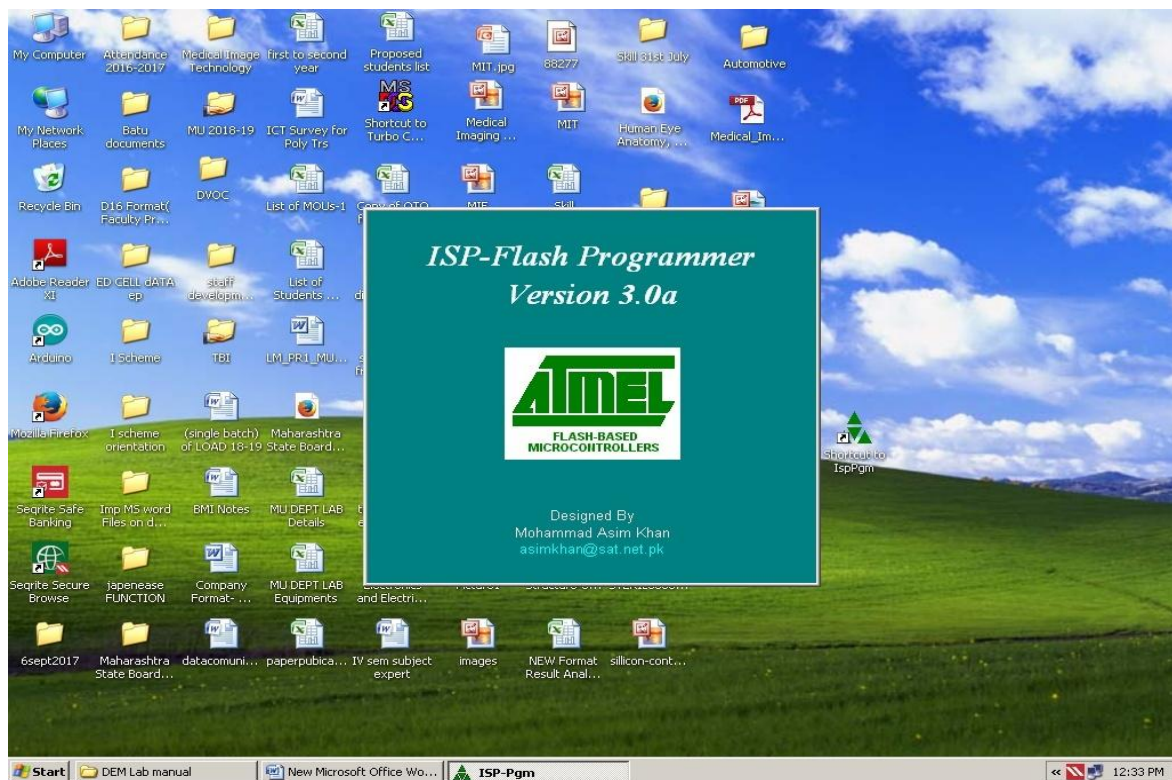

Figure. 4
- Click on the ISP-Pgm icon on the pc, following window will appear Fig. 4